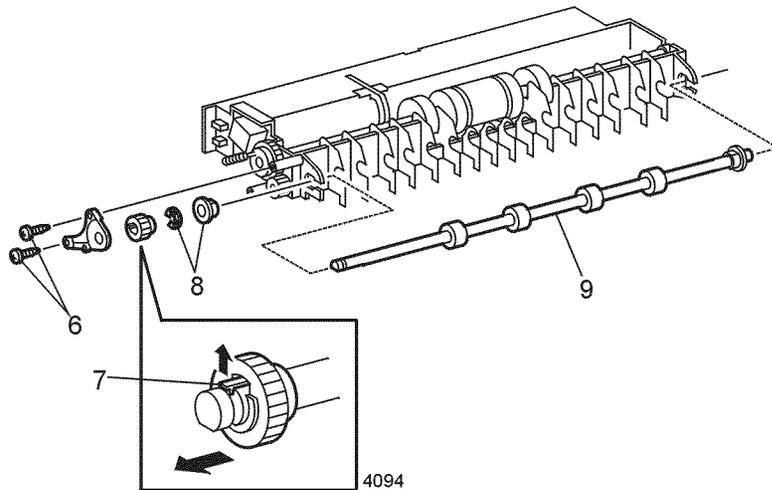

Figure 1 Turn Roll Assembly
7. Release the locking tab and remove the turn gear (Figure 1).
8. Remove the E-rings and bearings from the left end of the turn shaft (Figure 1).
9. Remove the Turn Roll Assembly (Figure 1).